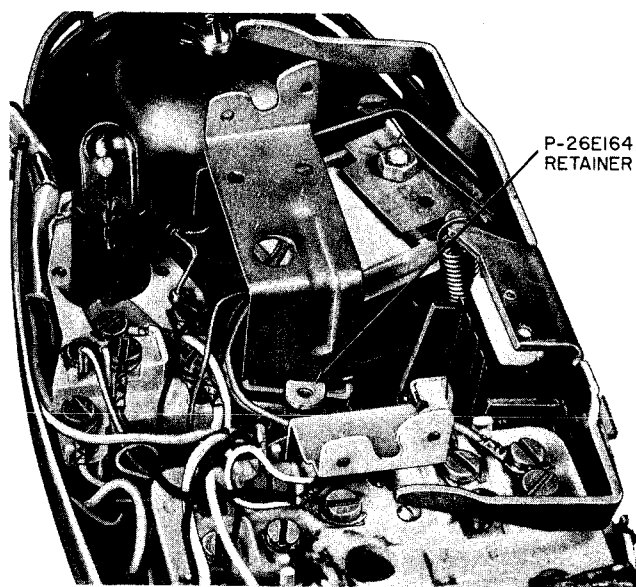
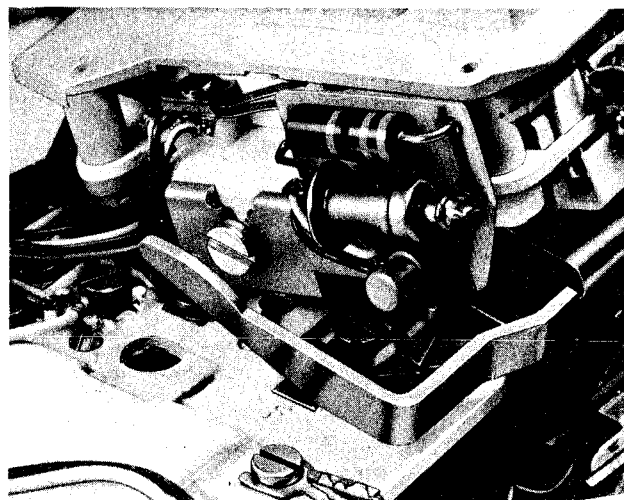

Fig. 7 — Installing Terminal Board Retainer in PRINCESS Telephone Set
Fig. 8 — Polarity Guard Mounted in PRINCESS Telephone Set
- (1) Remove housing; loosen dial mounting screws and move the dial to one side without disconnecting the dial leads.
- (2) Insert the P-26E164 retainer in left-hand dial mounting bracket (Fig. 7).
- (3) Insert tabs of P-21F675 terminal board into notches in right-hand dial mounting bracket and secure to retainer using P-43A392 screw.
- (4) Connect polarity guard in accordance with connections shown in appropriate connection section.
- (5) Reinstall dial on mounting bracket, securing the P-90D054 guard assembly mounting bracket under the right-hand dial mounting screw (Fig. 8).
- (6) Reinstall housing.